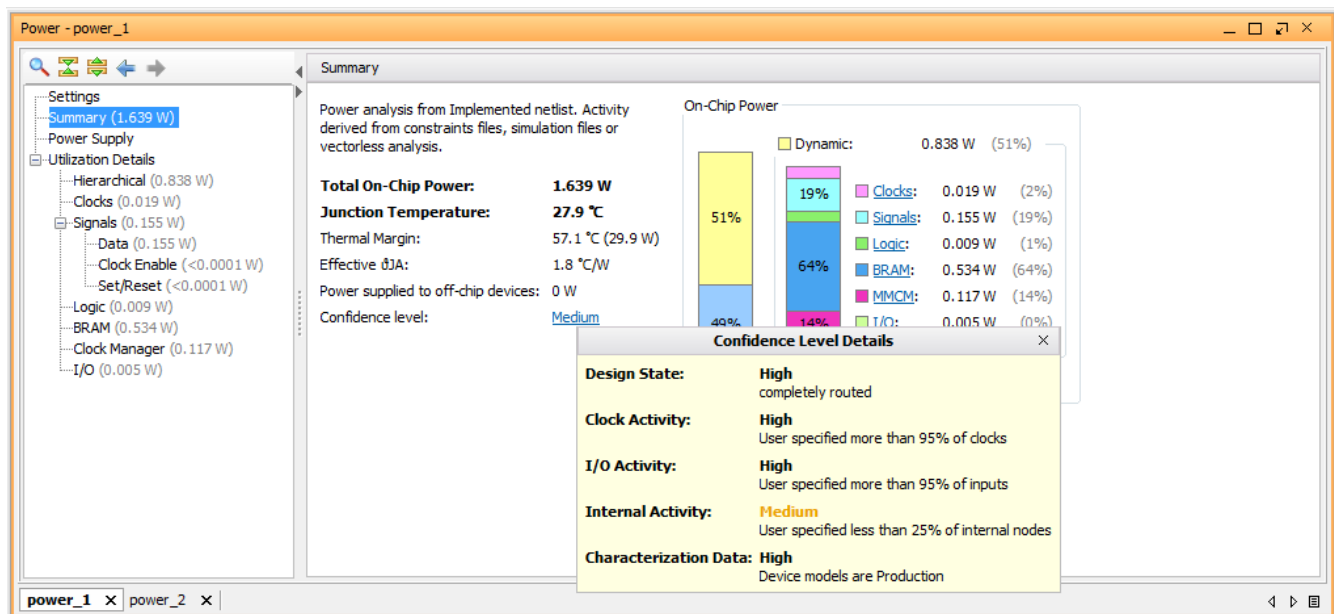

Figure 38: Confidence Level for Vectorless Power Analysis (power_1)
- In the **Summary** view of the **power_1** report (the report generated by the vectorless analysis), click on the Confidence level (**Low** in Figure 38).